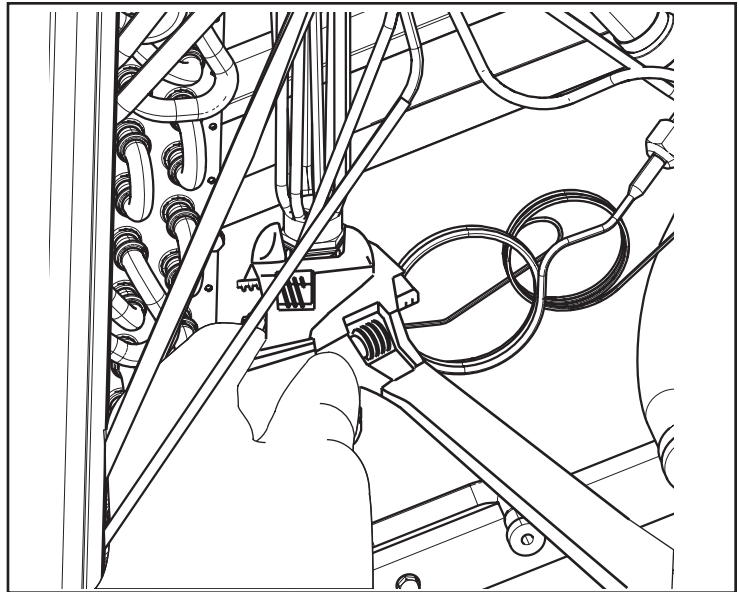

Figure 37 – Attach TXV
- Using two adjustable wrenches, attach and tighten the TXV flow control assembly at the mechanical fitting as shown in Figure 37. Tighten the fitting approximately 1/2 a turn past finger tight.